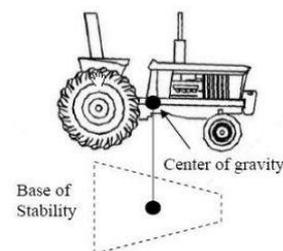

Figure 2: Stability baseline showing CG
- The CG moves around inside the baseline area as we operate the tractor shown in figure 2.